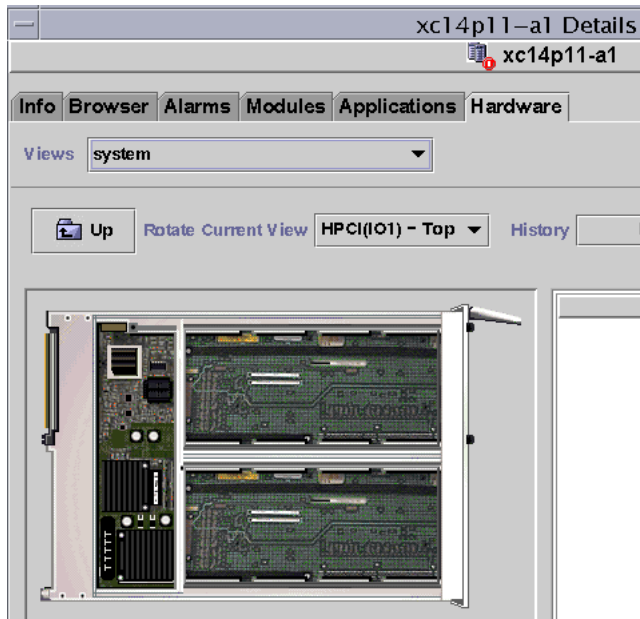

FIGURE 5-7 Top of HPCI Board in Domain Physical View
5. Click on one of the HPCI boards in the bottom slots of the Sun Fire High-End Systems domain to display a Physical View of the top of a HPCI board (FIGURE 5-7).